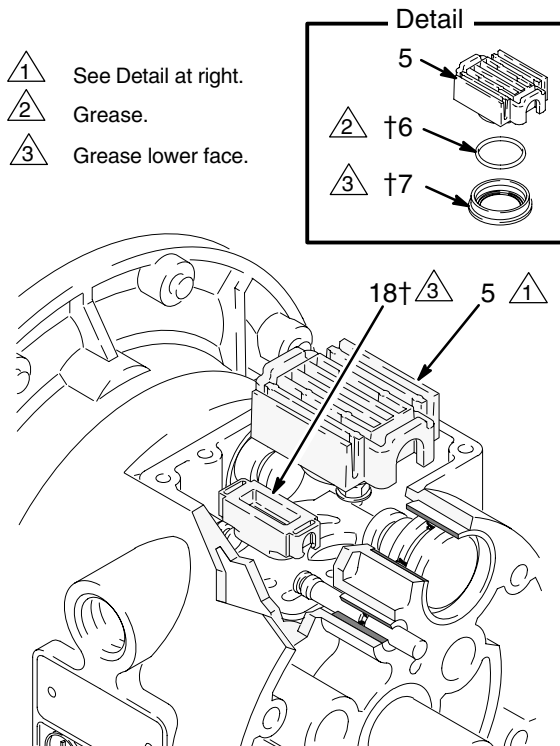

Fig. 9
3. Move the valve carriage (5) to the center position and pull it out of the cavity. Remove the valve block (7) and o-ring (6) from the carriage. Using a needle-nose pliers, pull the pilot block (18) straight up and out of the cavity. See Fig. 9.
7. Grease the lower face of the pilot block (18†) and install so its tabs snap into the grooves on the ends of the pilot pins (16). See Fig. 9.
8. Grease the o-ring (6†) and install it in the valve block (7†). Push the block onto the valve carriage (5). Grease the lower face of the valve block. See Fig. 9.
9. Install the valve carriage (5) so its tabs slip into the grooves on the narrow end of the actuator pistons (11). See Fig. 9.